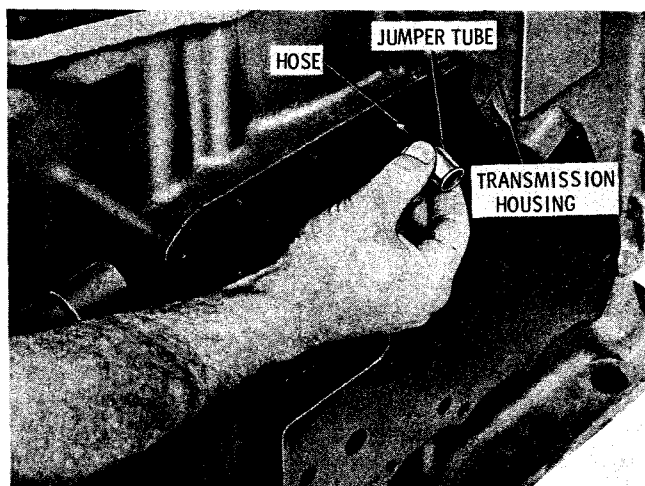

Fig. 7-36. Installing high-splitter clutch oil jumper tube S1683
(4) With the hose installed on the tube, install the splitter overdrive oil jumper tube, hose end first, through the transmission housing into the oil passage port of the high-splitter clutch piston housing (fig. 7-36).